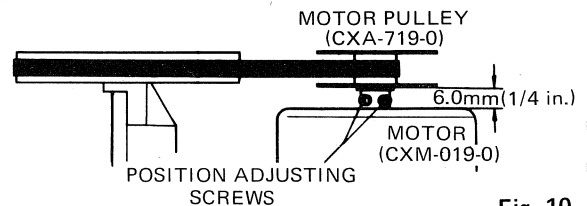

Fig. 10
1. When replacing motor pulley or motor, install as shown in Fig. 10, adjust position adjusting screws and leave a space of approx. 6.0mm between pulley and motor case.